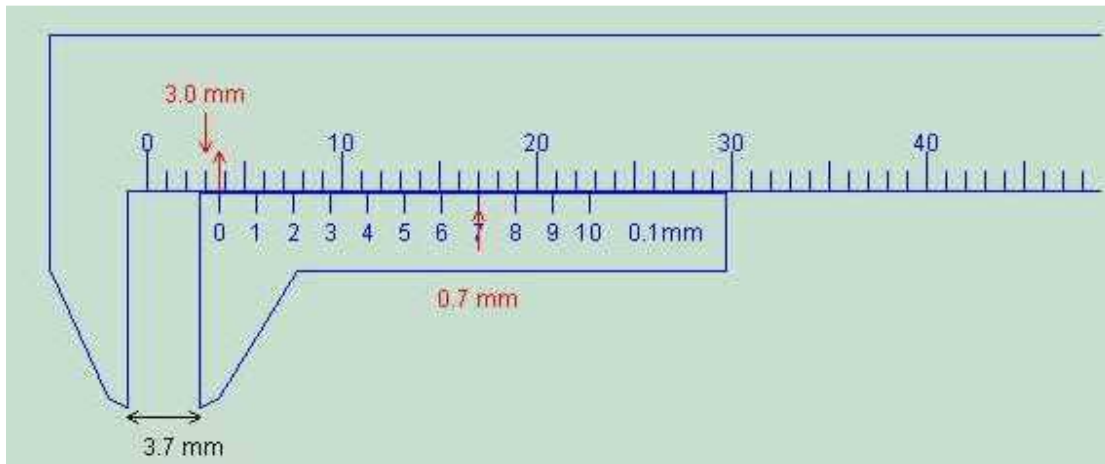

Figure 2: The reading here is 3.7 mm.
- 3- The remaining digits are taken from the vernier scale and placed after the decimal point of the main reading. This remaining reading corresponds to the division that lines up with any main scale division. Only one division on the vernier scale coincides with one on the main scale. See figures 2 and 3